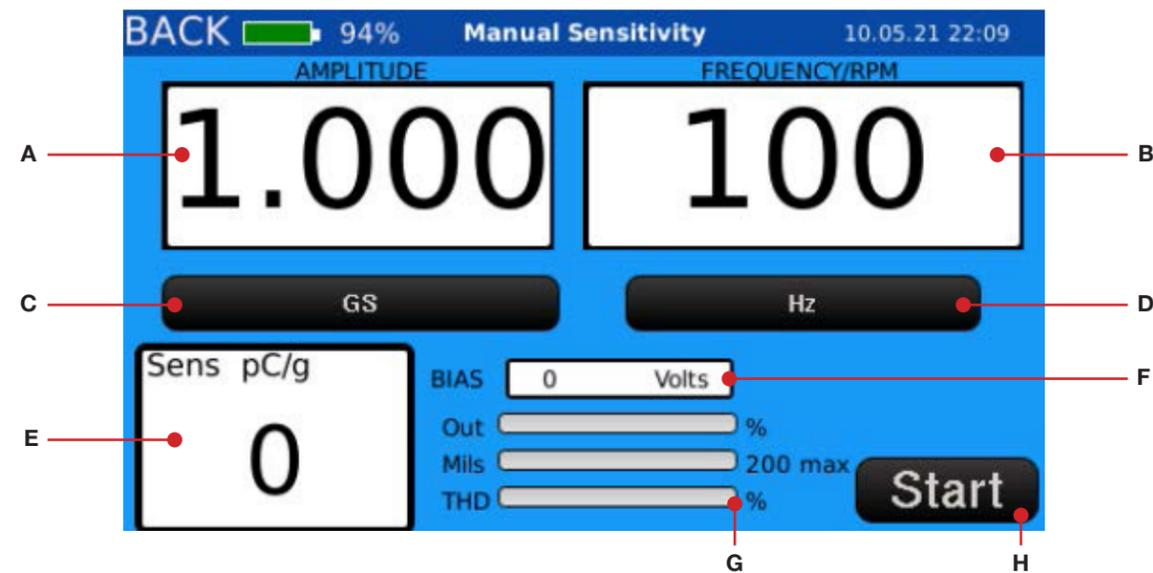

Figure 18. Manual testing screen
2. Manually select the amplitude and frequency to perform a sensitivity check (*Figure 18*):